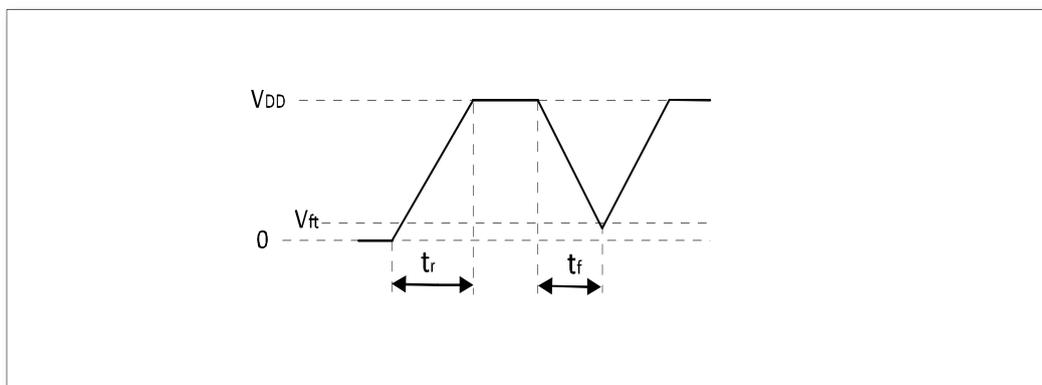

Figure 5-5 Power-on and power-down waveforms
- The V_{DD} waveforms of chip power-on and power-down must strictly follow the t_r and t_f phased in the following waveform diagram Figure 5-5, and no power-down is allowed during power-on